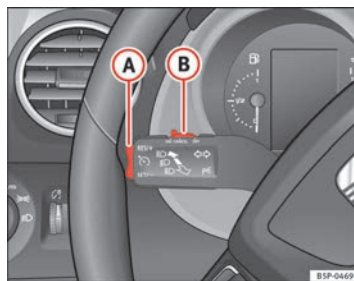

Fig. 153 Indicator and main beam headlight lever: switch and rocker switch for the cruise control
- Press the upper part **RES/+** of the rocker switch ⇒ fig. 153 **A** to increase the speed. The vehicle will continue to accelerate as long as you keep the rocker switch pressed. When you release the switch, the new speed is stored.
Control of the set speed is switched off if you reduce speed by depressing the brake pedal. You can reactivate the control by pressing once on the upper part of the rocker switch **RES/+** ⇒ page 189, fig. 153 **(A)**.